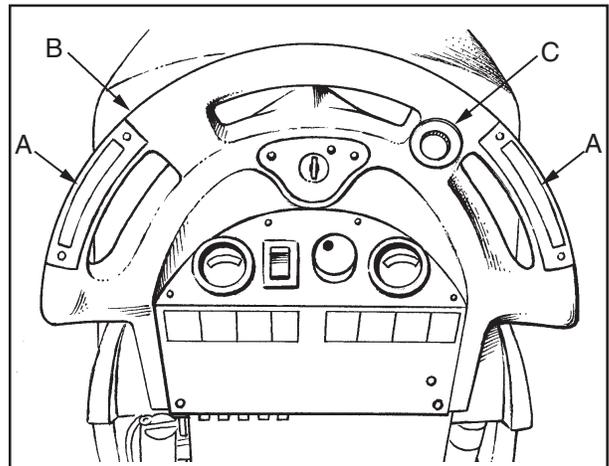

Figure 21
4. When either the left or right forward/reverse switches (figure 21, item A) are pushed in, the machine will go forward.
5. Control the speed of traverse by using the traverse speed control knob (figure 21, Item C).
7. To reverse the machine, push in the white reverse switch (figure 21 item B) and either the right or left forward/reverse switch (figure 21 item A) at the same time.